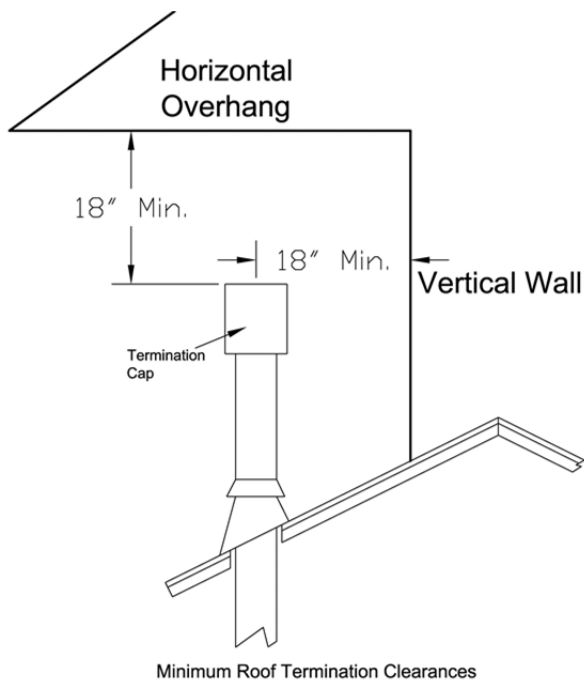

Figure 18 - Termination Cap clearances
- 🔥 All termination caps must be no less than 18" (457mm) horizontally from any roof or vertical surface. See Figure 18.
- 🔥 The termination must fall within the area shown in Figures 18 & 20.
- 🔥 All horizontal terminations must also comply with the clearance specifications to adjacent structures outlined in Figures 18 and 20.